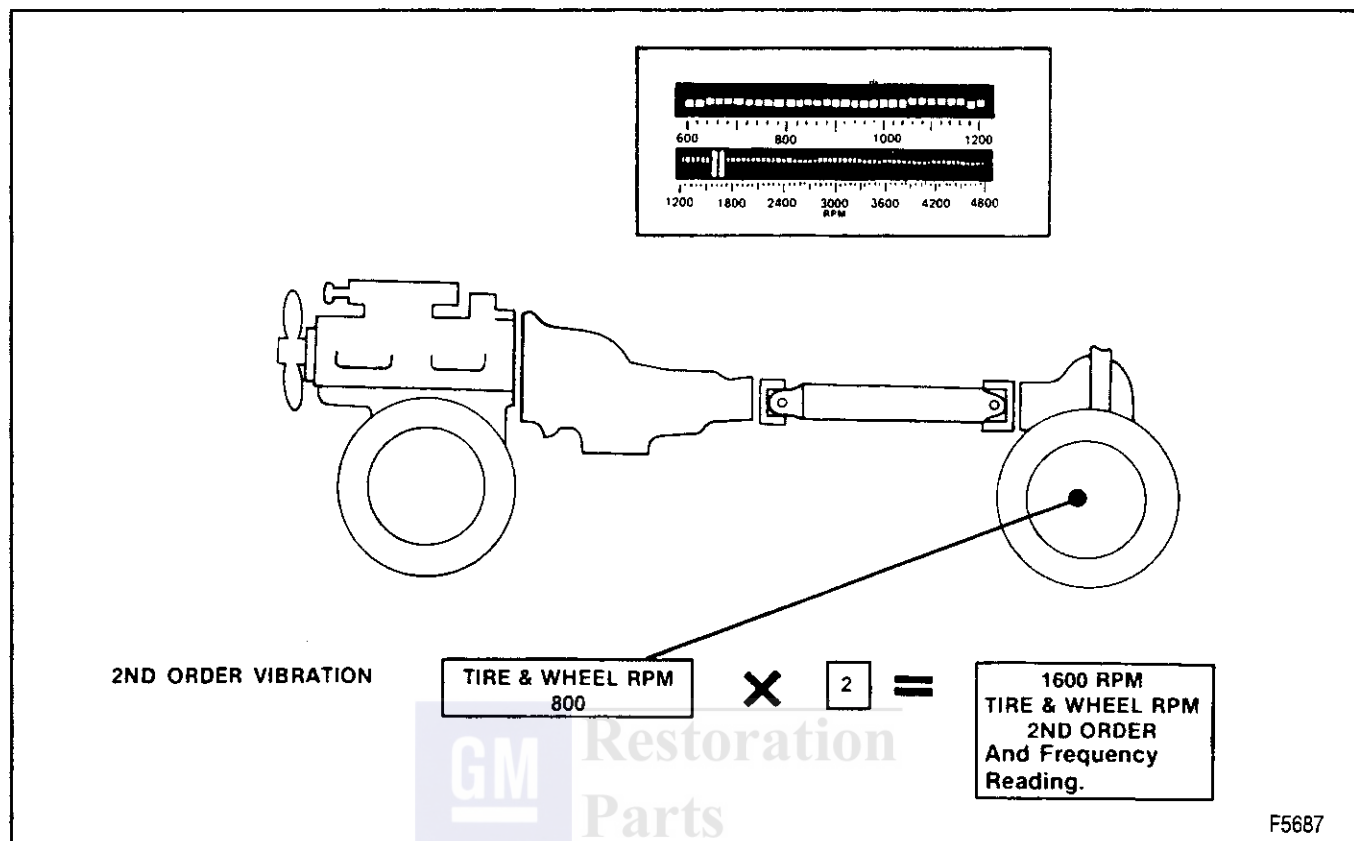

Figure 6—Reed Tachometer 2nd Order Vibration
**Known facts** - Reed tachometer frequency reads at 1600 cycles per minute (figure 6).